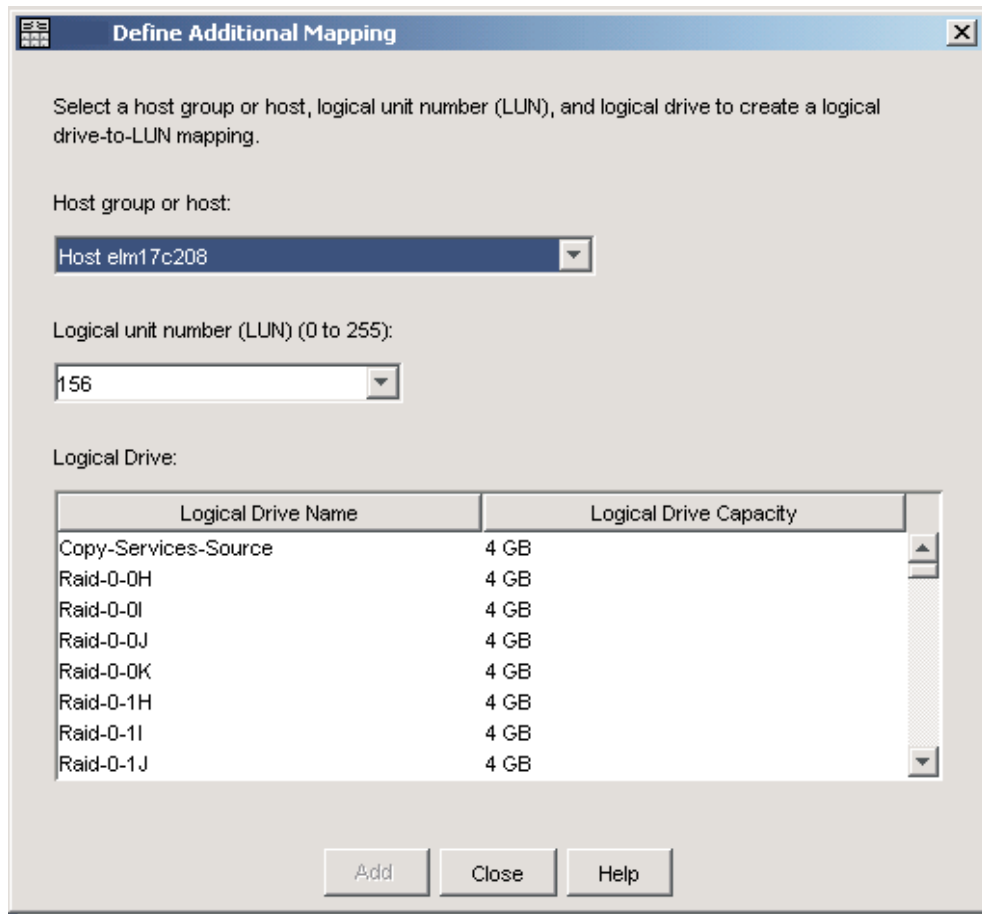
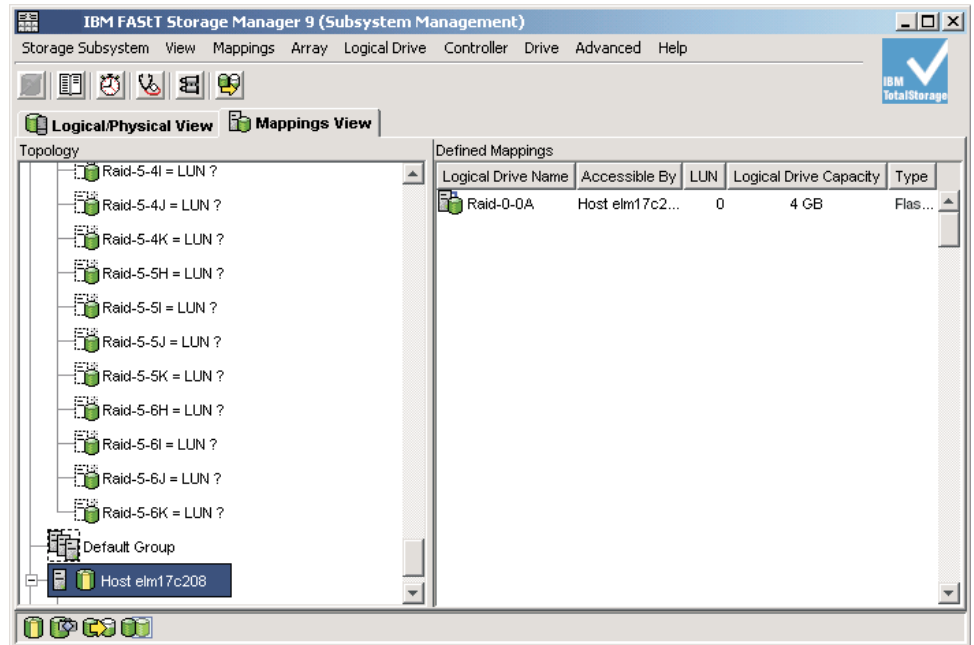

Figure 11. The Define Additional Mapping window
Figure 12. Mapped FlashCopy logical disk
3. In the Define Additional Mapping window, specify the following options, as shown in Figure 11 on page 32.
When you are finished, the FlashCopy logical drive is available to the host or host group, as shown in Figure 12 on page 33.
In the mapping example shown in Figure 11 on page 32 and Figure 12, the FlashCopy logical drive named DataVol-1 is made available to the backup server host group. This enables the backup server to access and mount the drive as part of its own file system. It also allows a local backup to be performed by the backup application software.